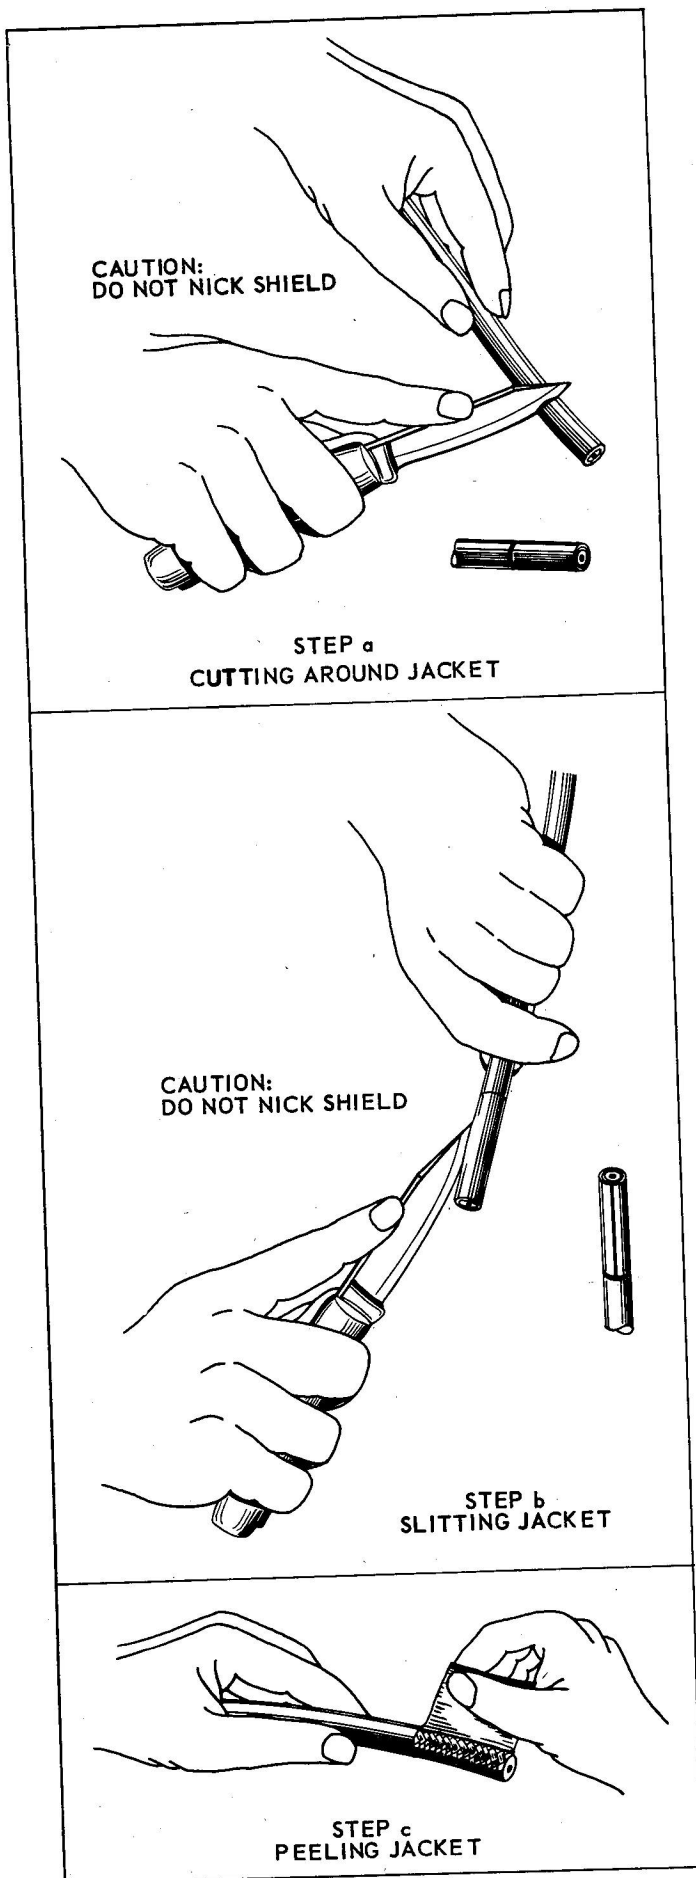

Figure 4-8. Stripping Outer Jacket from Coaxial Cable
4-18. Strip outer jacket from cable by first making a cut carefully around circumference with a sharp knife. See Figure 4-8, step a. Then make a lengthwise slit, step b, and peel jacket, step c. Take care not to nick, cut or damage shield.
- a. Remove 1/4 inch of outer jacket exposing shield. See Figure 4-8.
a. Strip 1/2 inch of outer jacket exposing shield. See Figure 4-8.
a. Remove 5/16 inch of outer jacket, exposing shield. See Figure 4-8.